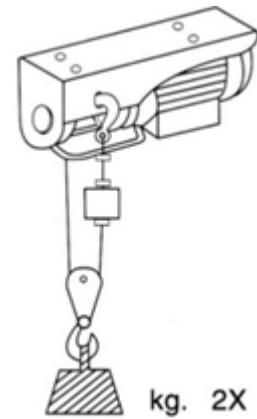

Fig.2
1. Loosen the bolts and nuts of the pulley (1, fig.3) and remove the hook (2, fig.3). Place the pulley over the wire rope (3, fig.3). Now place back bolts, washers and nuts and tighten them by hand. Finally tighten all bolts and nuts firmly (fig.3). **CAUTION! Attach the cablehook to the hoist body through the mounting hole for the hook in the hoist body (fig.2).**